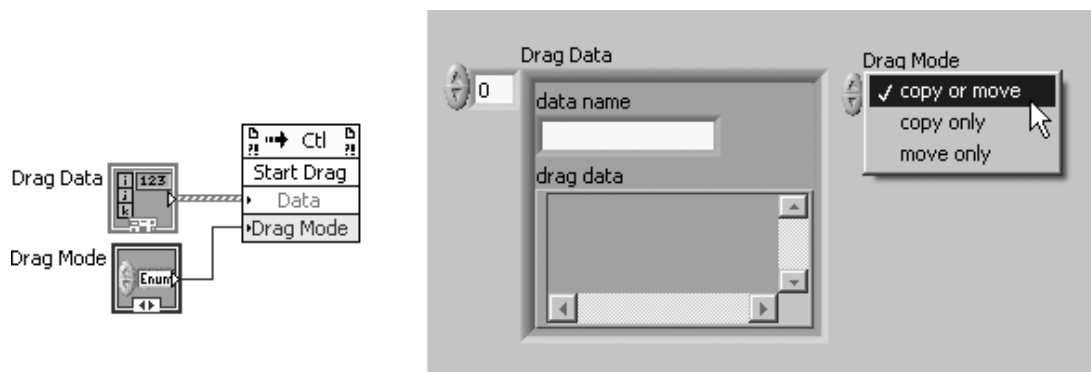

Figure 13.130
1. The control **Start Drag** method (see Figure 13.130). This method starts a drag and drop operation using the control as the source. You get to specify **Data**, which is an array of clusters containing **data name** (a string) and **drag data** (a variant, which can be anything you wish). The data names are very important; you will use the **Get Drag Drop Data** function (item #3 in this list) to access the drag data by name.